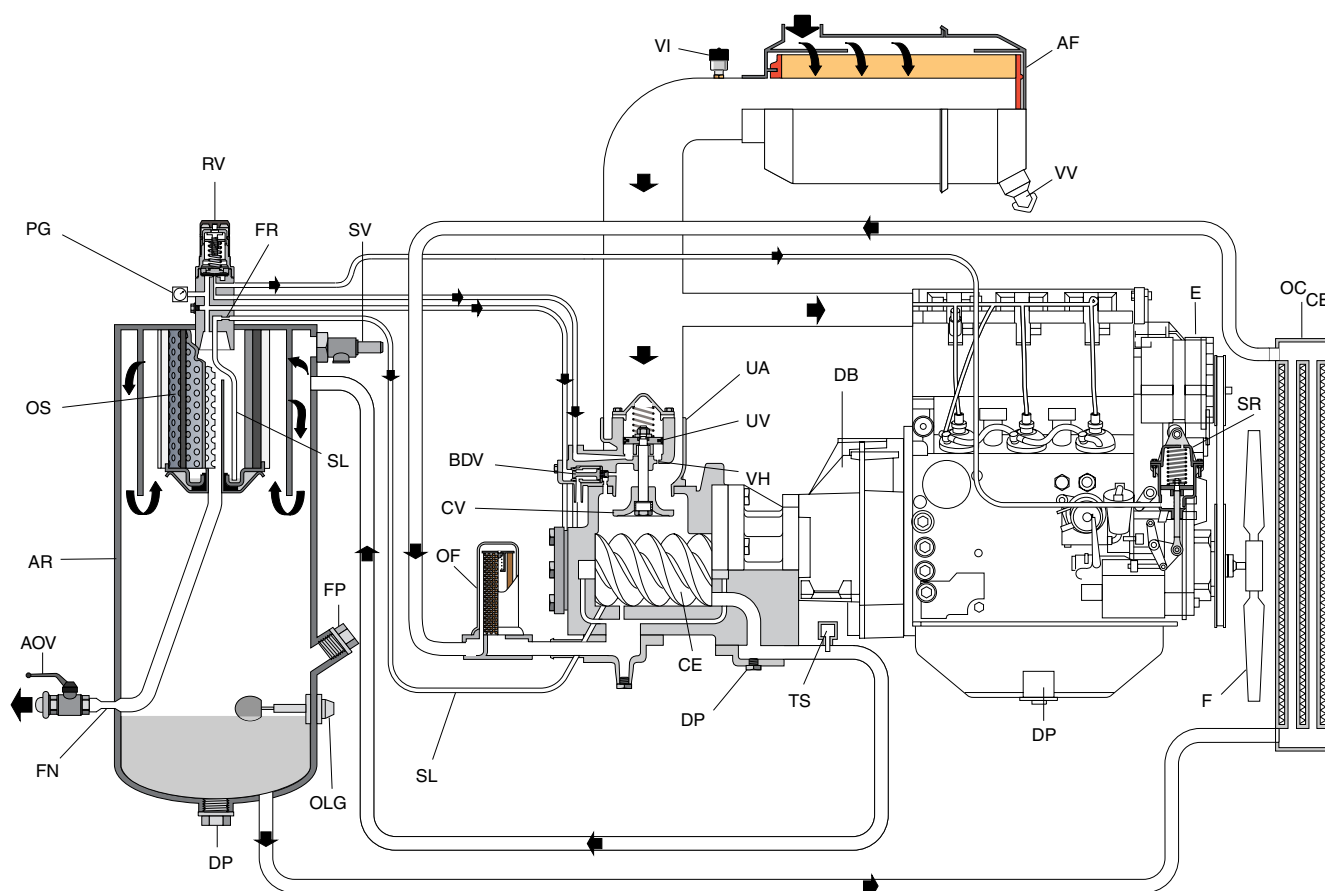

Fig. 2.3
2.5 AIR FLOW (SEE FIG. 2.3)
(SEE FIG. 2.3)